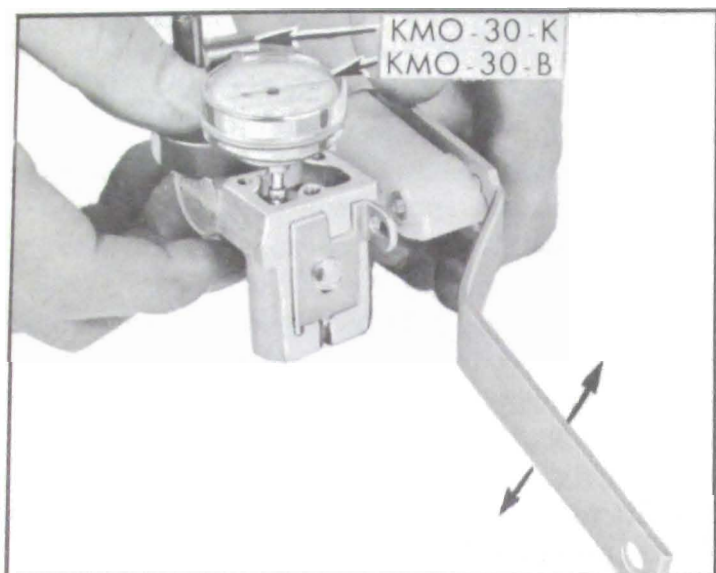

Figure 7-40—Checking Exhaust Core Travel
(1) Mount Dial Indicator, KMO-30-B, Sleeve KMO-30-K and Support J-1013 on the machined cover surface of the valve body. The indicator stem must contact the exhaust core. See Figure 7-40.